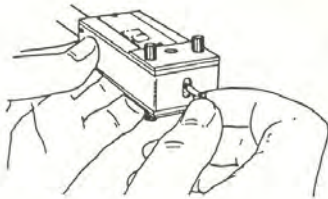

Figure 4
1. Screw the hook into the Hook Securing Hole (4) until it stops (Figure 4).